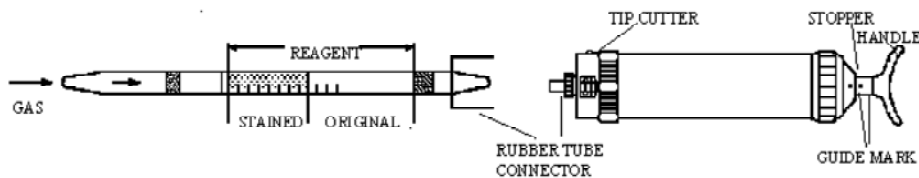

Fig.1
- ② Insert the detector tube into aspirating pump securely as shown in Fig.1. (Arrow mark shall point to the pump.)
- ③ Align the guide marks on the shaft and stopper of the aspirating pump.
- ④ Pull pump handle to full stroke until it locks and wait for 1 minutes or until confirmation that sampling is completed (See descriptions of the flow indicator in the pump instructions).